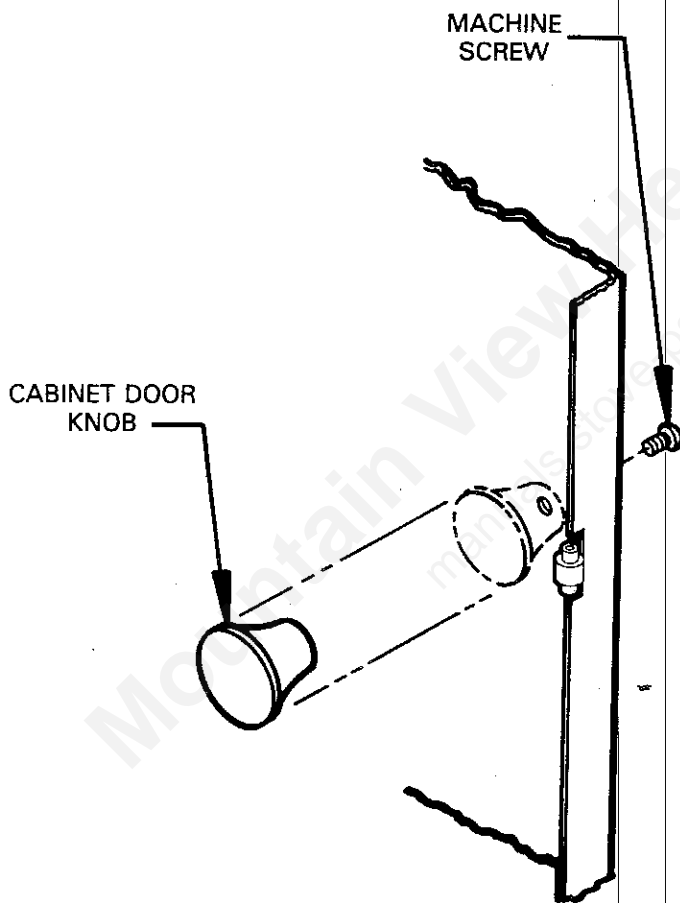

FIG. 11
1. Remove the machine screw and door knob (Fig. 11).